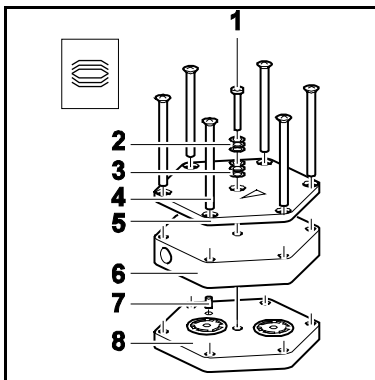

Fig. 24: Refitting pump head
1. For two-headed pumps: On the pneumatic head connection (3), loosen the union nuts (2) by hand. Then slightly loosen the angle-fitting (1) in the pump head (4) by turning it anticlockwise, so that the connecting tube can be pulled out.
2. Mark the position of top plate (fig. 24/5), head plate (fig. 24/6), intermediate plate (fig. 24/8) and adapter relatively to each other by a drawing line (for two-headed pumps: at both pump heads) with a felt-tip pen (1). This helps to avoid incorrect assembly later.
1. Completely unscrew the screw(s) (1) in the center of the top plate (2) and take off the disk springs (Fig. 24/2 and 3). With a two-headed pump: Unscrew the screw(s) and take off the disk springs from just one pump head.
2. Remove top plate (2) and head plate (3) from intermediate plate (5).
6. Insert screw(s) (1) with disk springs (2, 3) in the center of the top plate (5). In doing so, make sure that the disk springs are arranged properly (see fig. 24).
7. Screw in the screw/screws (1) in the centre of the pump top plate (5) until the bottom of the screw head is flush with the top plate; then screw one final half turn to tighten. (tightening torque: N810: 20 Ncm; tightening torque: N 820/ N 840/ N 842: 25 Ncm).